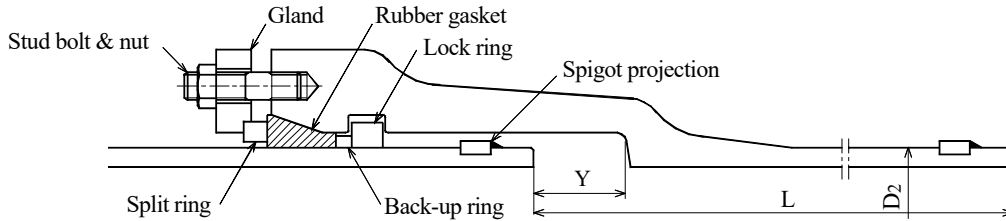

Figure 1 Pipe with S joint
- (1) Abbreviation symbol:
- (2) Pipe size: 20 in. to 104 in. (In this manual, pipes size 20 in. to 40 in. and 84 in. to 104 in. are omitted.)
- (3) Nominal pipe wall thickness: Class 1, 2 and 3
- (4) S joint: see Figure 1
- (5) Dimensions of pipe: see Figure 1 and Table 1